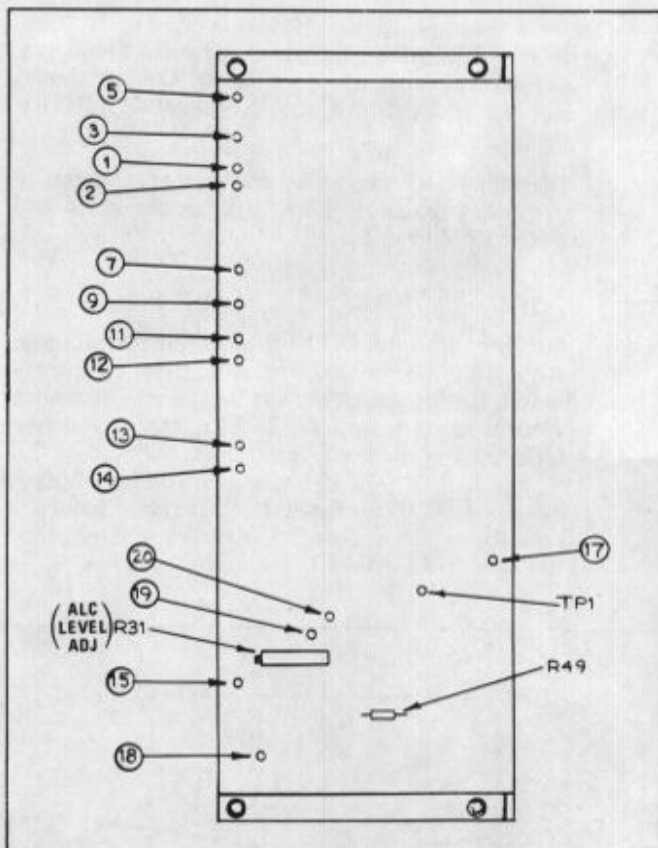

Figure 2-30. Trimmer Locations, Divider/ALC Assembly, A1A2
- c. Set Mainframe frequency to 250 MHz and adjust A1A2R31 for an output level of 0 dBm on RF voltmeter. (-23 dBm for Model RFM-10 only) (See Figure 2-30)